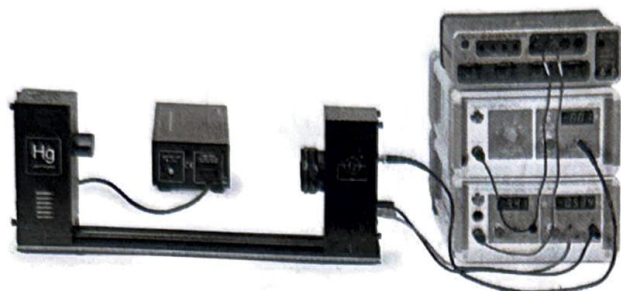

Figure 3: Complete Setup
1. Mount the mercury lamp and the photodiode case on the track as shown in Figure 3.